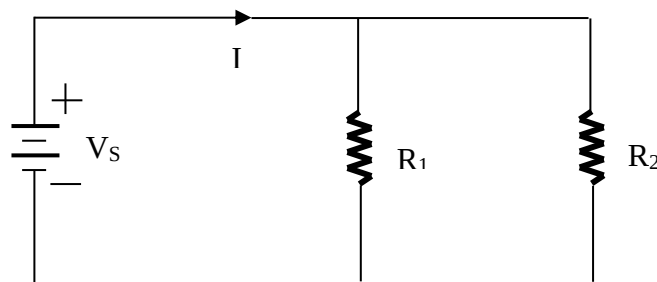

Figure 7 -1
4. Using a value for V_s of 5 V, calculate the nominal, minimum, and maximum values for I in the circuit of Figure 7 -1 and record them in Table 7 -2 for each parallel combination.